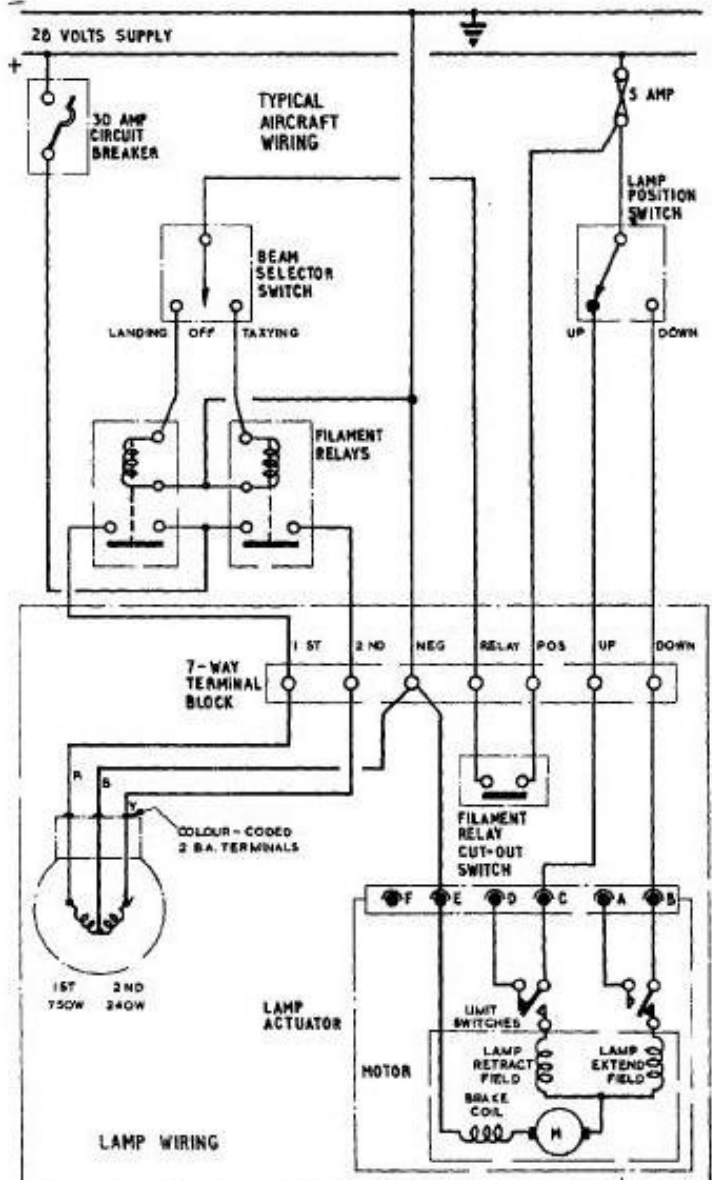

Fig. 2. Circuit diagram
**Electrical connections (fig. 2)**